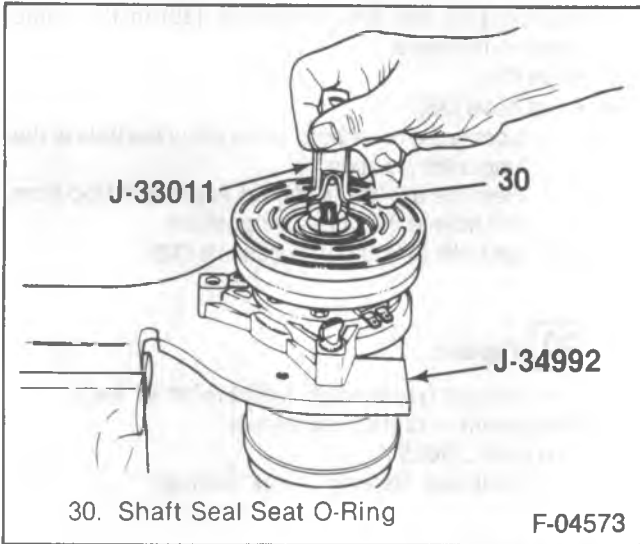

Figure 24—Installing the Shaft Seal Seat O-Ring
4. O-ring seal using J 9553-01 (figure 24).
- 2. O-ring seal using J 33011 (figure 24).